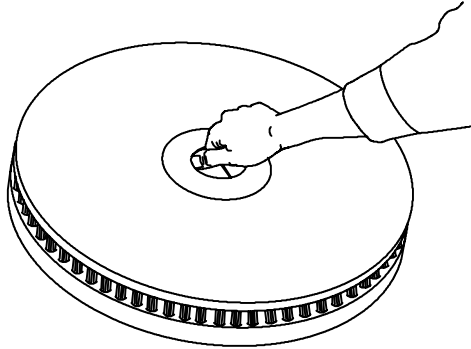

FIG. 8
1. Cleaning pads must be placed on pad drivers before attaching pad driver. Secure cleaning pad to pad driver with center lock (Figure 8).